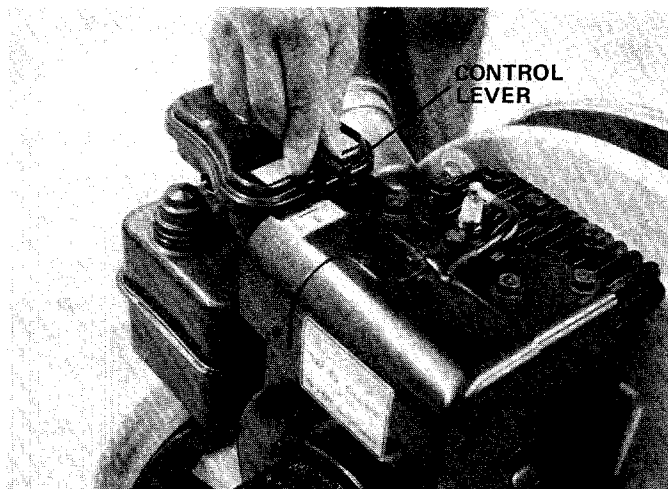

FIGURE 7A - BRIGGS AND STRATTON ENGINE
1. Place control lever (on engine) in "CHOKE" position. See figure 7A.